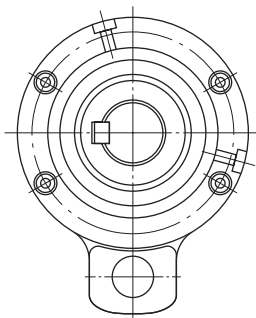

Figure 2/ Figura 2
- b) For backstops design 257, both screws (12) located on the lid (2) should be removed and the lubricating oil should be poured in the upper hole until it starts to leak from the other hole, located laterally (see figure2).